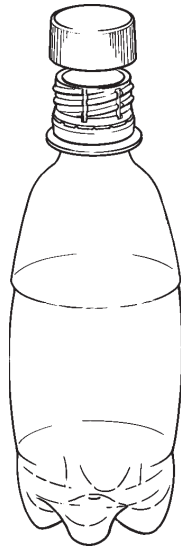

Figure 3
3. Figure 3 shows a fizzy drink bottle made from PET.